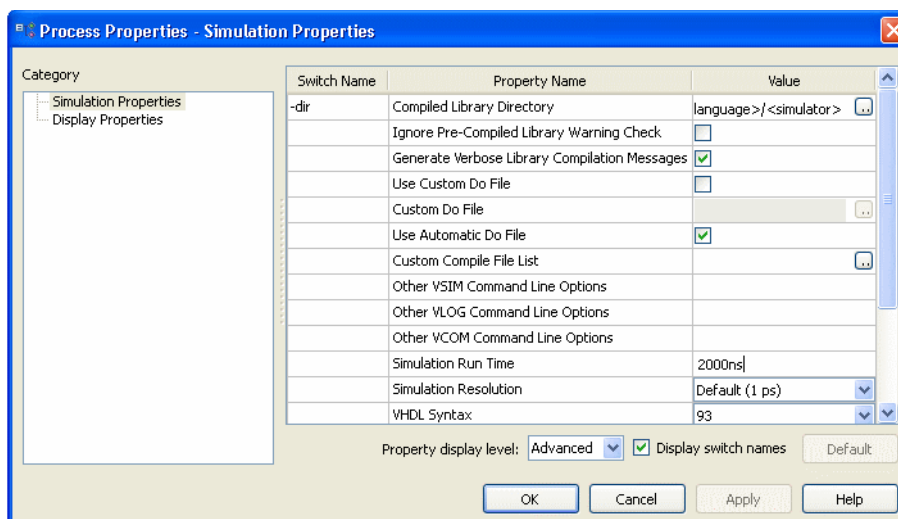

Figure 4-3: Behavioral Simulation Process Properties
3. In the Process Properties dialog box (Figure 4-3), set the Property display level to **Advanced**.